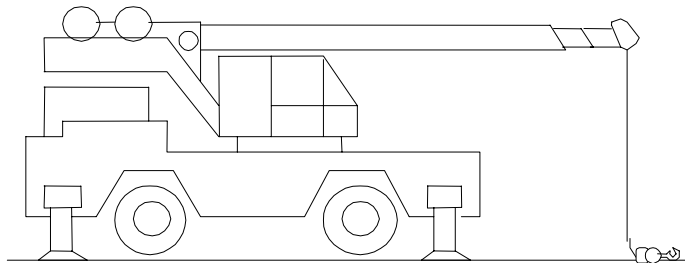

Figure 13
3. Put the Aux. hook on the ground (Fig. 13), and let the lines go slack.